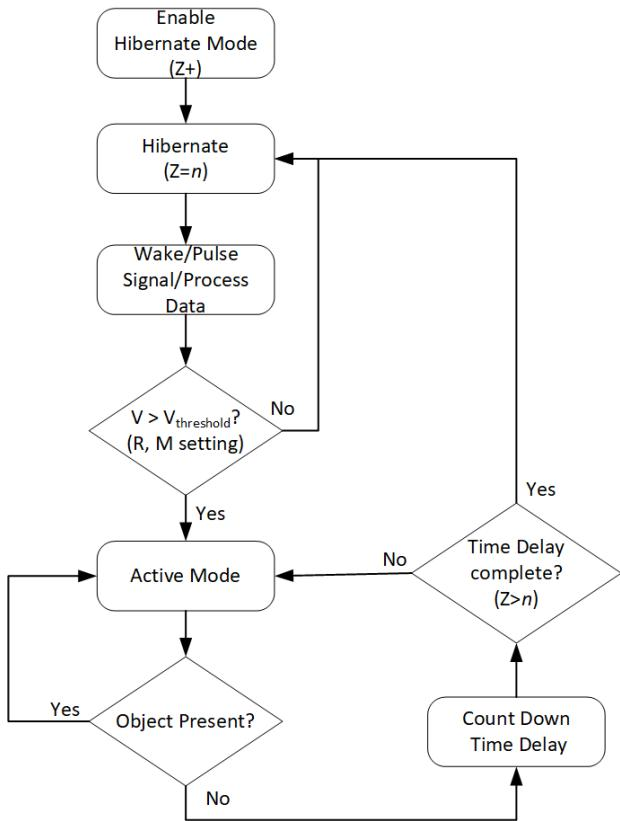

Figure 13. Hibernate Mode Operation
**Hibernate Mode (OPS243 only)** – enables very low power (~100-250mW) duty cycle mode for battery-based applications. In Hibernate mode, the sensor shuts down internal power to the processor and RF for a time period set by the Z=n command. After time  $n$ , the sensor powers up, pulses a signal, processes the data and makes that data available. If filter values are set on speed (R>, R<), signal magnitude (M>, M<), or direction (R+, R-), the sensor will check to see if the processed data meets any of the threshold values and if so, will stay in active mode. It will continue in this manner until data does not meet the threshold settings at which time the sensor will stay active for Z>n seconds before entering back into Hibernate mode. Figure 13 shows graphically this process.